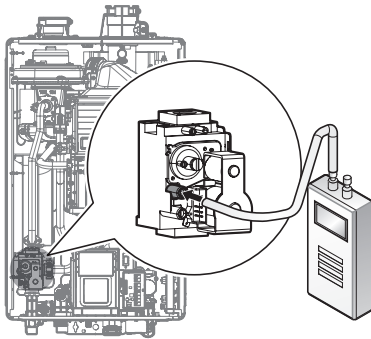

Figure 9
- a. Open the offset pressure port by loosening the screw two turns as shown in Figure 9.